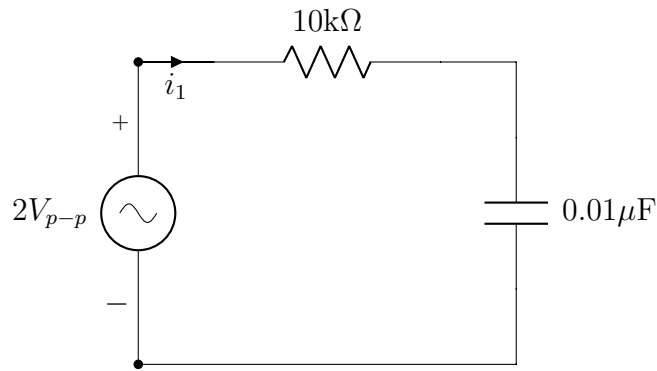

Figure 3.3: Series RC Circuit
Part (0) Prior to coming to the lab, calculate theoretical voltage and current values in Figure 3.3 and record them in Table 3.1. Calculate all voltage and current values as **peak-to-peak**.
Part (2) Set up the series RC circuit using the resistor R and capacitor C_1 as shown in Figure 3.3. Connect Channel 1 of the oscilloscope across the function generator (through the bread board). Use the “W1” and Ground pins of the Analog Discovery for the Function Generator, “1+” and “1-” pins for Channel 1 of the Oscilloscope, and “2+” and “2-” pins for Channel 2 of the Oscilloscope.